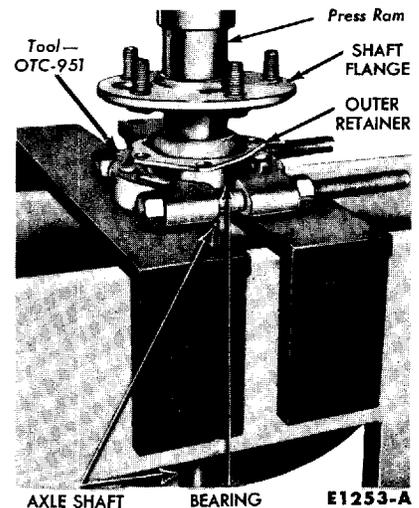

FIG. 5—Wheel Bearing Installation
8. Press a new rear wheel bearing on the axle shaft (Fig. 5). **Be sure that the inner race of the bearing is supported by the tool as the shaft is pressed through the bearing.** The